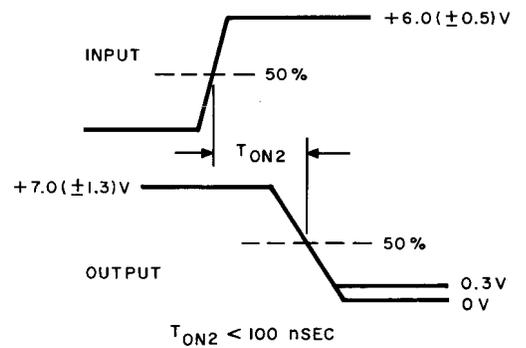

Fig. 50A — EIA Interface Test
- (2) Rotate the switch through positions 6 to 9. The input-output waveforms shall be as specified in Fig. 50A.